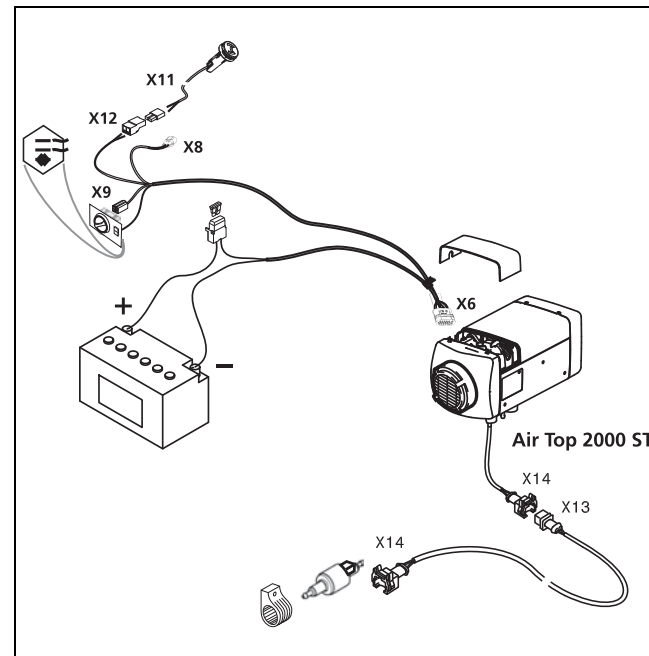
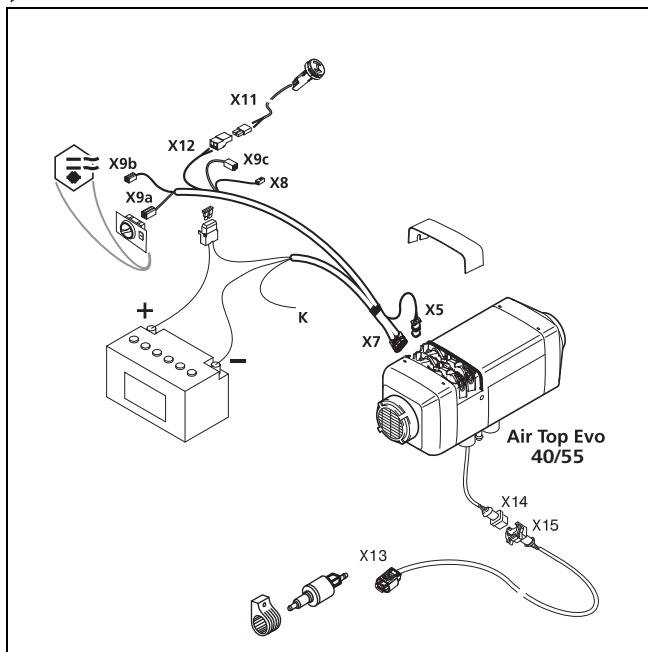

Fig. 33 Wiring harness Air Top 2000 ST
Fig. 34 Wiring harness Air Top Evo 40 / Air Top Evo 55
Fig. 33 and Fig. 34 show the wiring harnesses for Air Top 2000 ST and Air Top Evo 40 / Air Top Evo 55
- The wiring harness for the Air Top Evo 40 / Air Top Evo 55 includes cable K (Fig. 34, colour red/black) for optional control of a battery disconnecter or an additional operation indicator. If not required for this purpose, insulate the end of the cable.